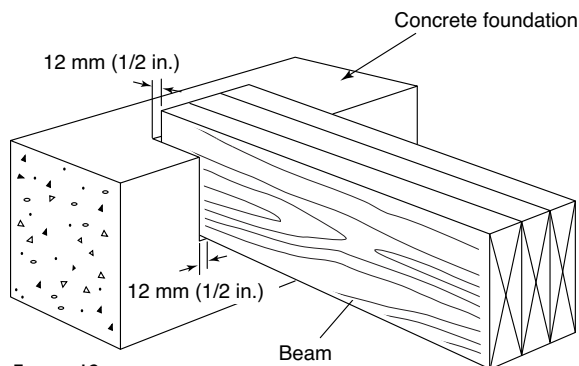

FIGURE 12
- ◆ Protect beam ends that bear on exterior foundation walls at, or below, grade from moisture-induced rotting. Use pressure-treated lumber or provide a 12-mm (1/2-in.) air space all the way around the beam end. The space permits air circulation and moisture evaporation (see Figure 12).